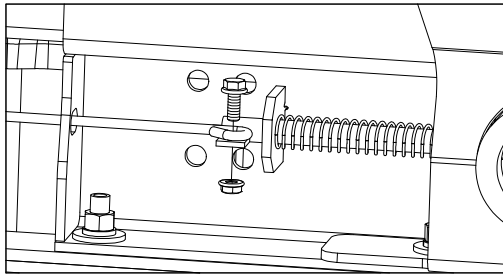

Figure H2: Looking up at center section.
2. **Secure the handle.** Attach the handle to the latch pin as shown in Figure H2. The head of the bolt must be on the handle side, and the lock nut must be on the tab side. The tab is welded to the pin in an offset position so that the handle will be lined up over the center of the pin. If the handle is fastened to the other side of the tab, the handle will not function properly. When installed correctly the latch pin may be disengaged from the ball by pulling on the handle from the driver side wheel well and rotating the handle clockwise.